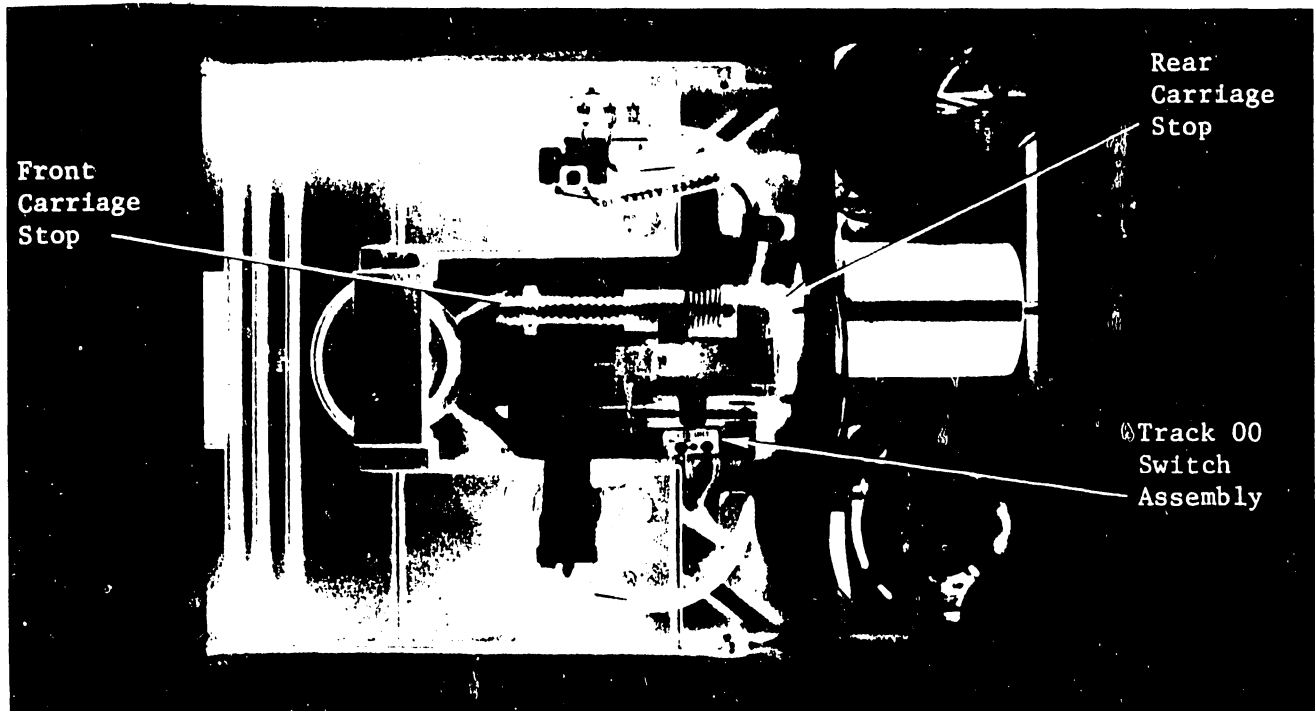

FIGURE 15
- 3) Loosen rear carriage stop set screw (Figure 15).
#### 5.5 TRACE 00 SWITCH ASSEMBLY (See Figure 15)